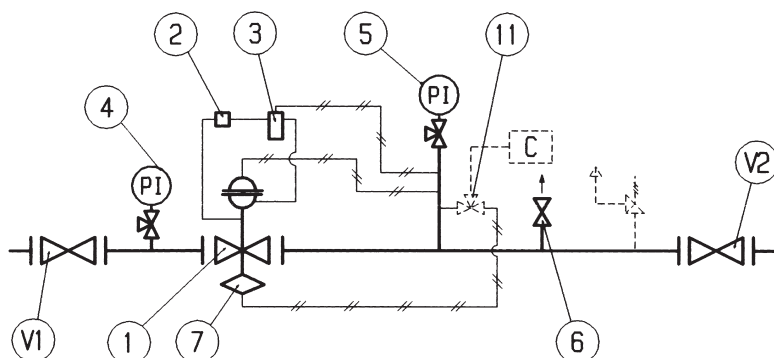

Fig. 16
5.4 COMMISSIONING THE REGULATOR WITH INCORPORATED VB/93 SLAM-SHUT (FIG. 16)